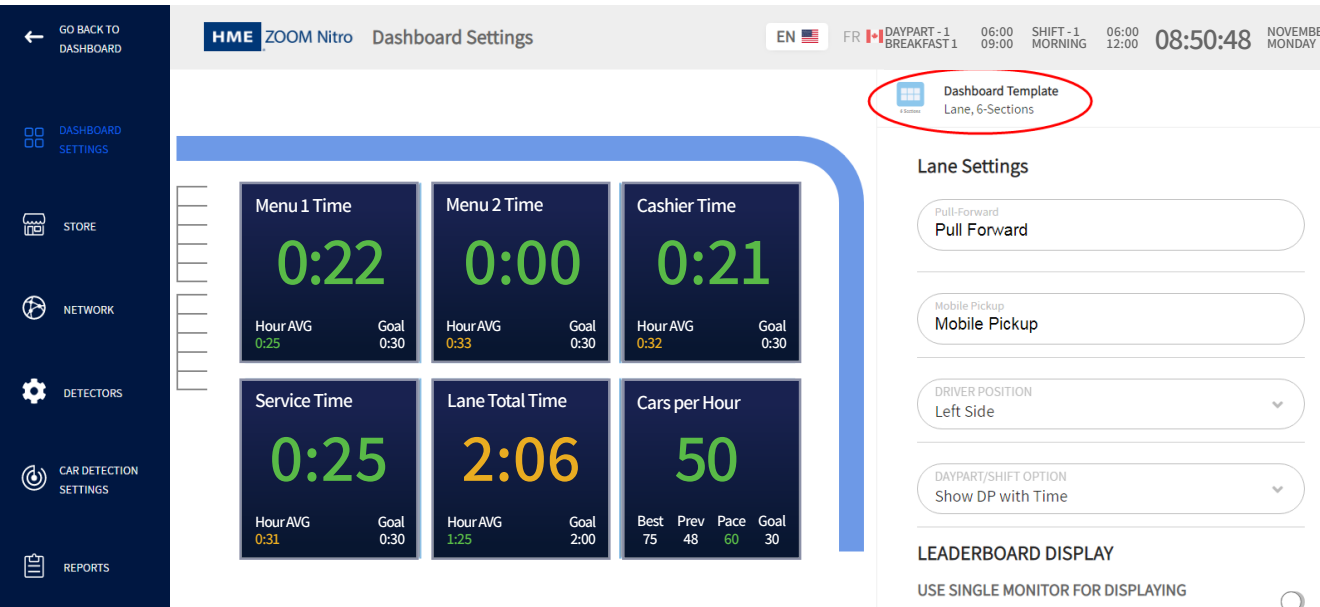
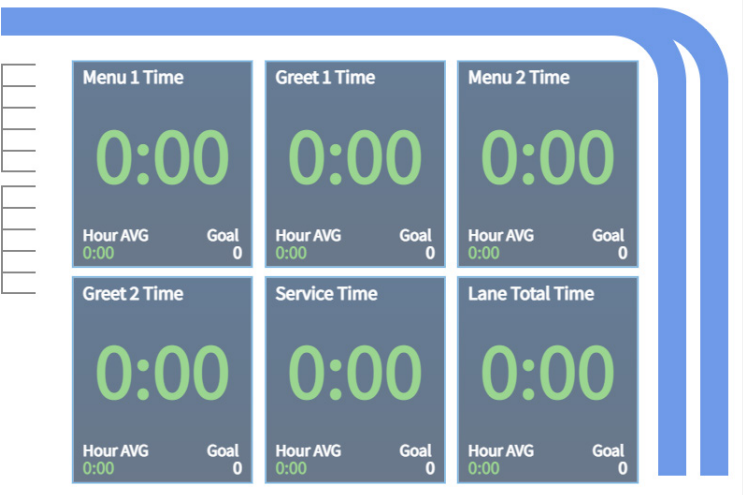
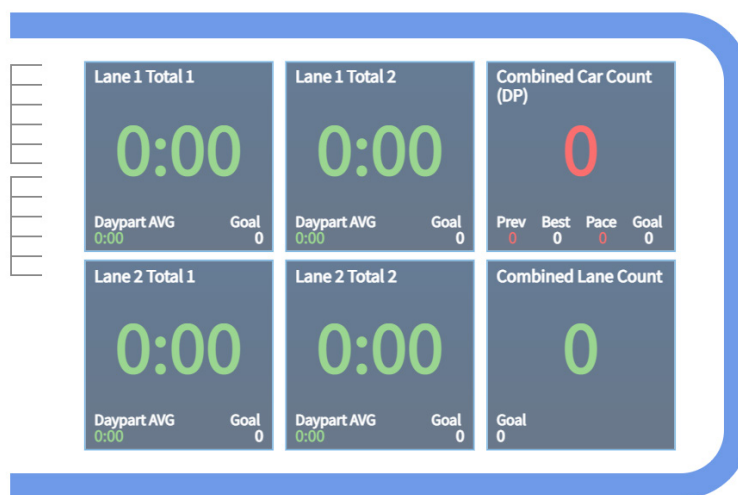

Fig. 3.1
Fig. 3.2
Fig. 3.3
**Why is it needed?** You may wish to configure and customize the look and feel of your Dashboard. This includes choosing what measured events you would like to display on your Dashboard. Click on any Data Section to open it for editing. The editable fields for the Data Section are displayed on the right side of the screen. For example, the Lane graphic in Fig. 3.1 was clicked so the **Lane Settings** fields on the right are available for editing.
**Screen details explained:** Fig. 3.1 shows a Single-Lane layout, Fig. 3.2 shows how a typical Y-Lane layout is displayed, while Fig. 3.3 shows what a Dual-Lane layout looks like.
To adjust the layout of the Dashboard screen, click on the  icon found in the upper portion of the screen or the adjacent down arrow icon  next to it (see Fig. 3.1).